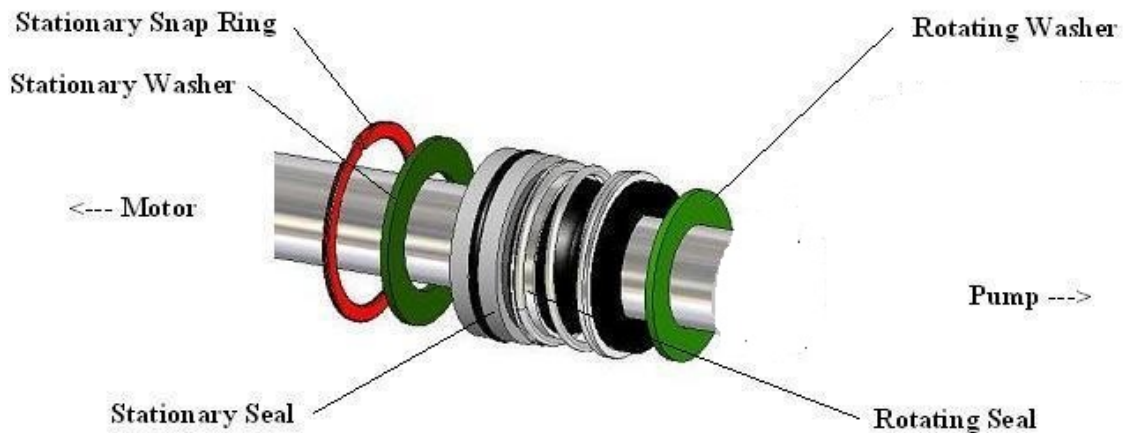

Figure 5 Mechanical seal. (Temporary)
5. Pull out the mechanical seal assembly. The sequence of the parts is (see Figure 5 also):
1. For the balance disk installation, follow items 4 through 6 of section 5.11.
3. Use Figure 5 as a reference for installation of mechanical seal. Please remember that during assembly the parts move along the shaft from left to right. Also, both halves of mechanical seal will be touching with the “shiny” surfaces.